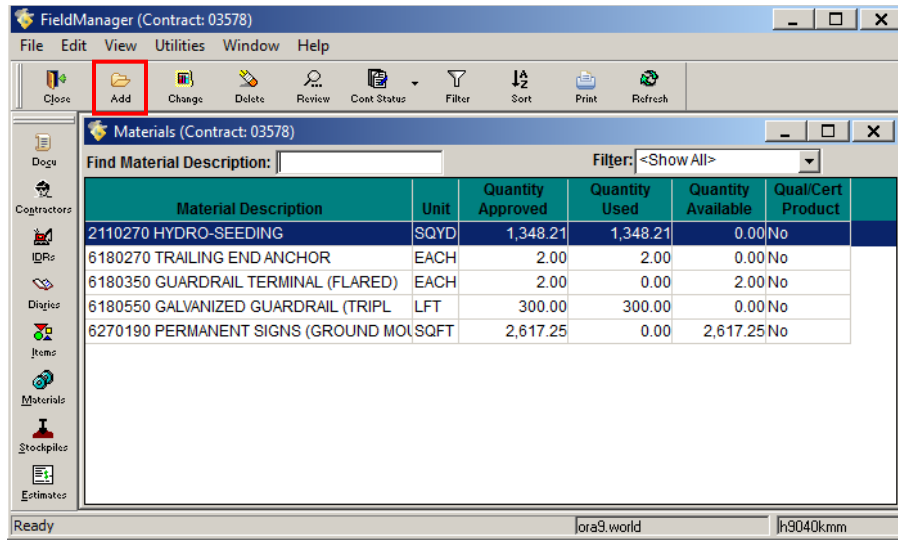
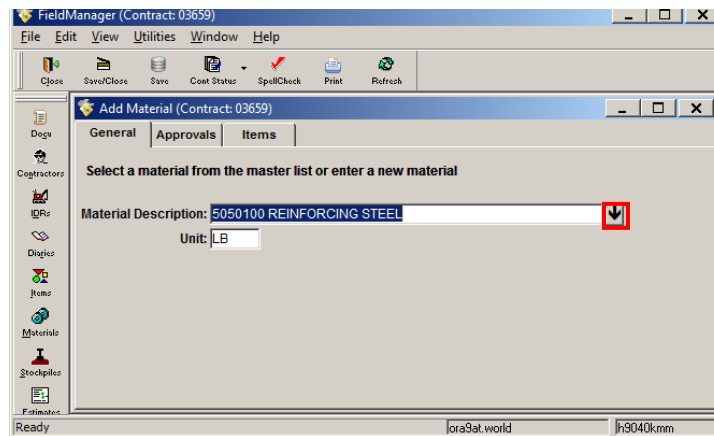
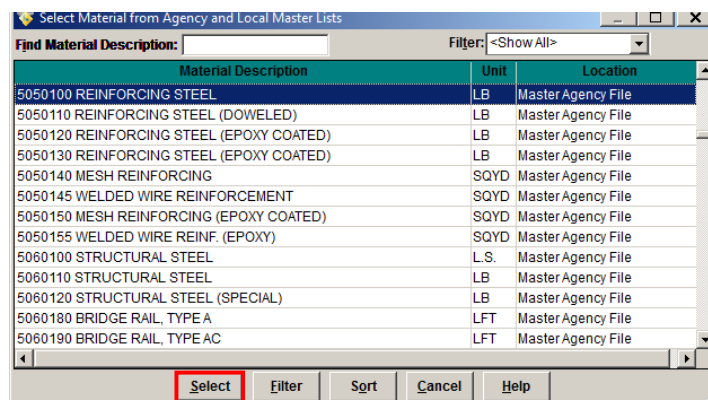

Figure 6-2. Materials List Window
Figure 6-3. Add Material Tab Window - General Tab
Figure 6-4. Select Material from Agency and Local Master Lists Window
1. Select desired contract in the Contracts list window, and click **Materials** on the Application Toolbar (Figure 6-1). The Materials list window opens (Figure 6-2).
2. Click **Add** on the Window Toolbar (Figure 6-2). The Add Material Tab window opens (Figure 6-3) with the **General** tab displayed.
- **Material Description:** Click the drop down arrow to the right of this field (Figure 6-3). The Select Material from Agency and Local Master Lists window opens. Select the material from the list and click the **Select** button (Figure 6-4).